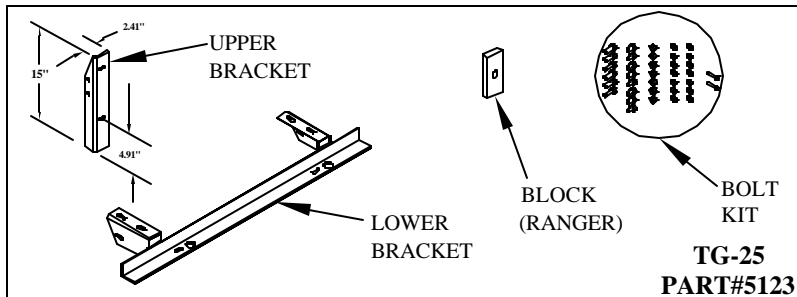

Figure 1 : Parts identification.
Step 2: **Verify** mounting bracket (**Figure 1** and **Table 1**).